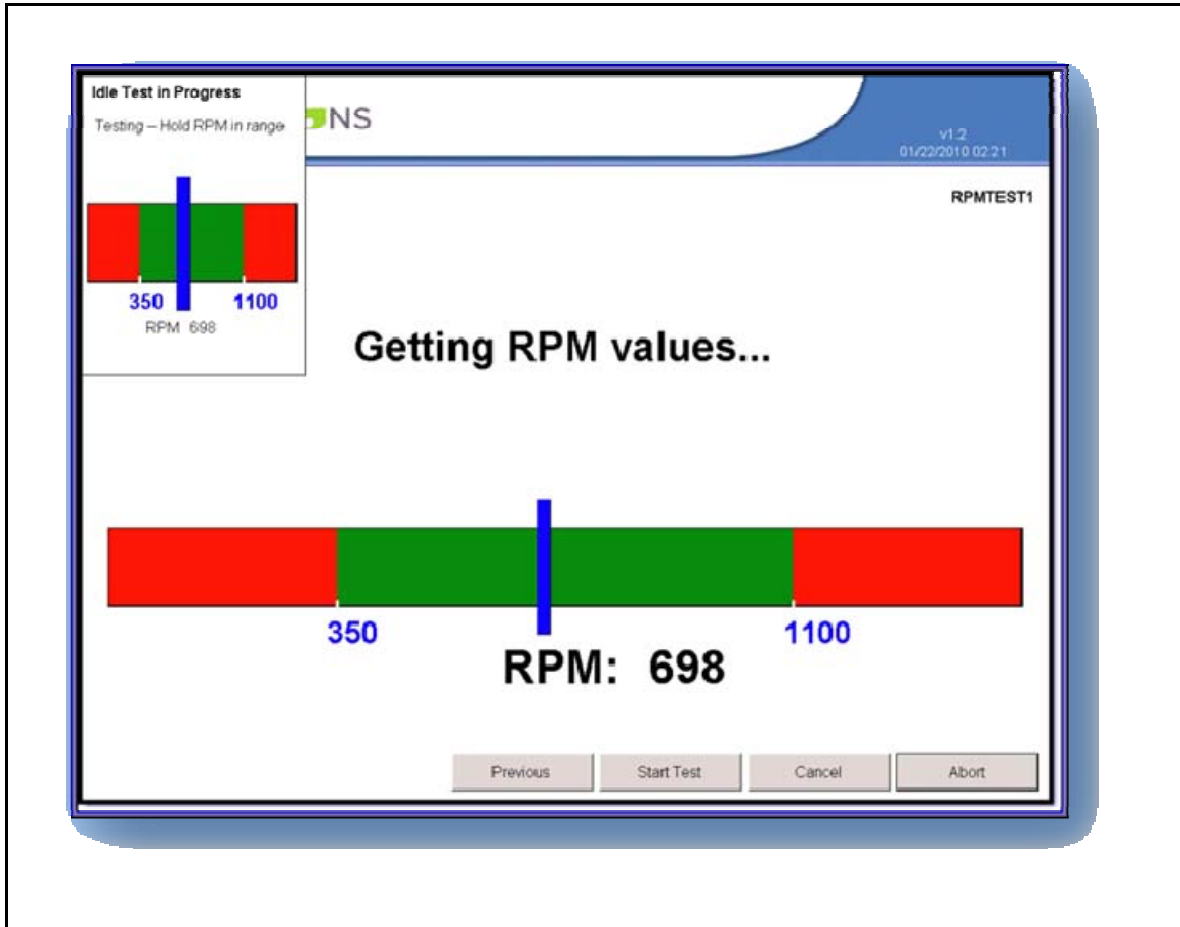

Figure 4-4: Idle Test RPM Capture
- While performing the Idle RPM capture (Fig 4-4 below), if the RPM readings are not stable (Out of the green zone more than 3 seconds) or no readings at all, please unhook the clamp on probe, rotate it 180°, and reconnect the probe.